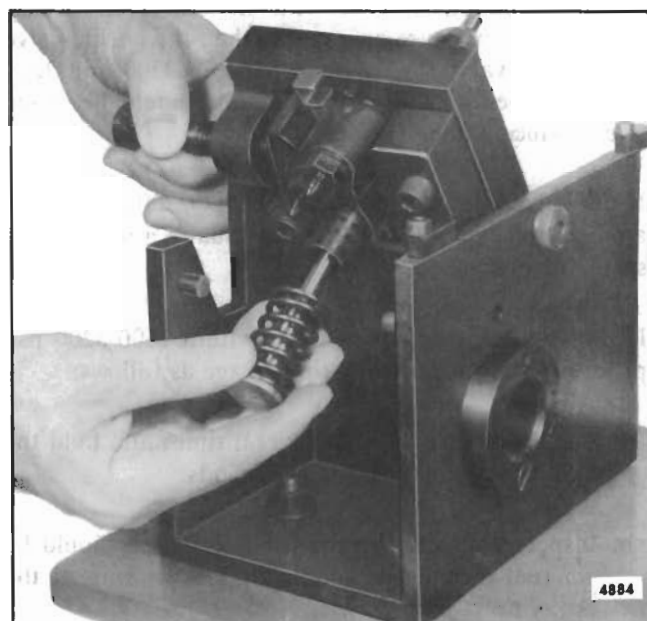

Fig. 24 - Removing or Installing Plunger Follower, Plunger and Spring
3. Refer to Fig. 24 and remove the plunger follower, plunger and spring as an assembly.